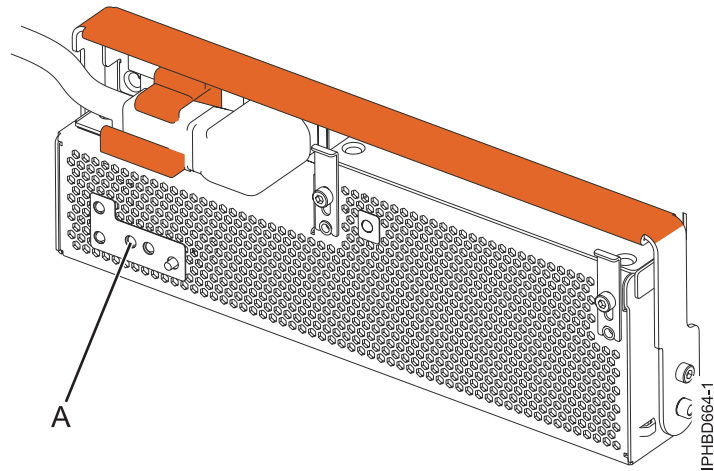

Figure 5. FRU fault and identify LED
4. At the front of the expansion unit, identify the power supply that needs to be replaced. To identify the power supply, observe the state of the amber field-replaceable unit (FRU) fault and identify light-emitting diode (LED) (**A**) as shown in Figure 5 on page 9. A lit (on solid or flashing) LED indicates the failing power supply.